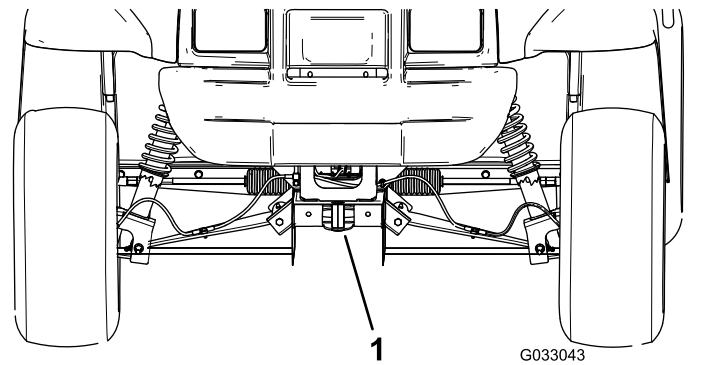

Figure 18
- The lifting point at the front of the machine is located at the front of the frame, behind the towing tongue (Figure 18).